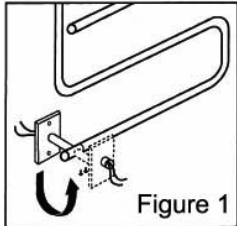

Figure 1
- Should you require the power entry to be at the other side, remove the 2 screws from the wall bracket, and rotate the wall bracket 180° and replace the screws as shown in figure 1.